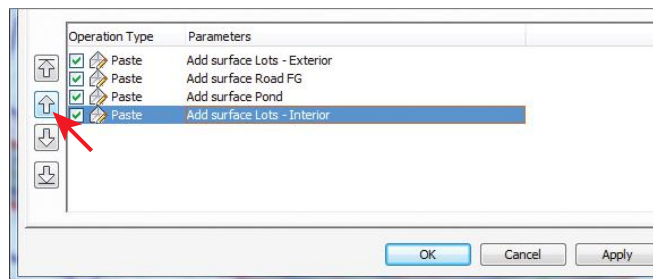

FIGURE 18.3 Clicking the up arrow changes the order of operations so that the Lots – Interior surface is pasted before the Pond surface.
- On the Surface Properties dialog, on the Definition tab, click Add Surface Lots – Interior and then click the up-arrow icon (see Figure 18.3).